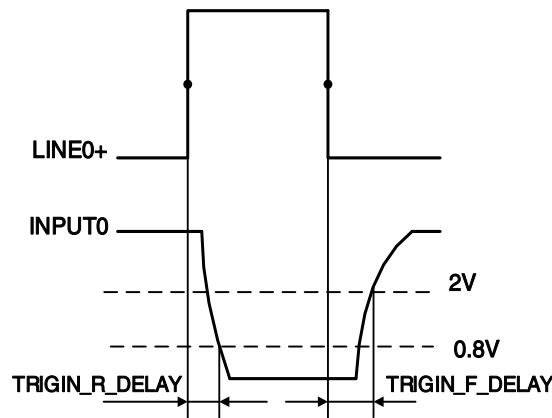

Figure 7-4 Parameter of opto-isolated input circuit
- Rising edge delay: <math><50\mu\text{s}</math> (0°C~45°C), parameter description as shown in Figure 7-4
- Falling edge delay: <math><50\mu\text{s}</math> (0°C~45°C), parameter description as shown in Figure 7-4
- Input rising time delay: <math><2\mu s</math> (0°C~45°C), parameter description as shown in Figure 7-4
- Input falling time delay: <math><2\mu s</math> (0°C~45°C), parameter description as shown in Figure 7-4